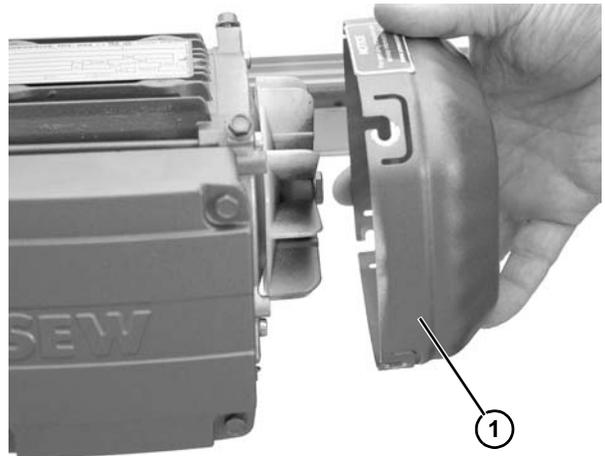

Figure 8
5. Remove motor fan cover (**Figure 8, item 1**).